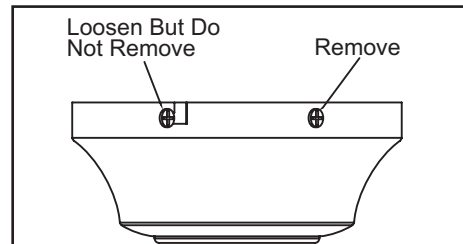

Figure 8
2. Remove the mounting plate from the canopy by loosening the four screws on the top of the canopy. Remove the two non-slotted screws and loosen the slotted screws. This will enable you to remove the mounting plate (Figure 8).